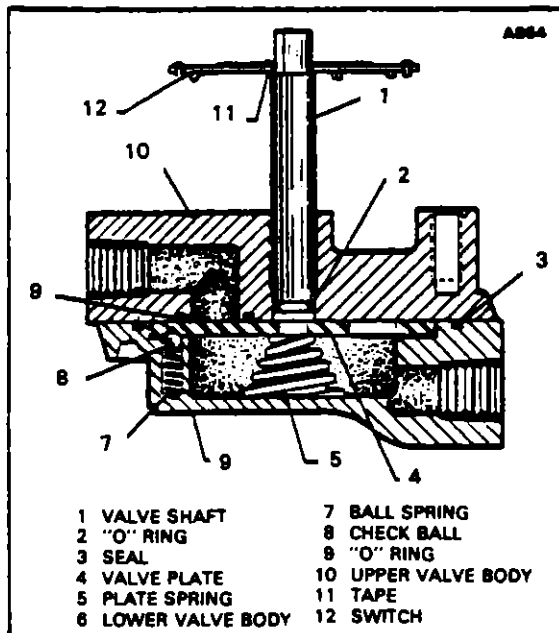

FIGURE 8-12. FIVE POSITION FUEL VALVE
8-15. Servicing Five Position Fuel Valve (Hoof). (PA-24-250 and PA-24-260) Normally the five position valve need only be serviced when there are indications of binding or leakage around the valve shaft (1, Figure 8-12), at the mating surface of the upper valve body (10) and lower valve body (6) or if reason to believe that there is leakage through the valve when in an off position. Replacement of "O" rings will usually correct this condition
- b. Check the shaft hole of the valve body (10) where the "O" ring (2) makes contacts for roughness that might damage the "O" ring. Polish the hole surface to remove any roughness.
- d If fuel selector switches are installed, connect wiring and carefully slide the main switch (12, Figure 8-12 or 8-13) on the valve shaft (1). Should the main switch fit loose on the valve shaft, shim the flat of switch hole with 1/4 x 7/16 pressure sensitive adhesive tape (11), Spec. PPP-T-60B, Type III, Class I.